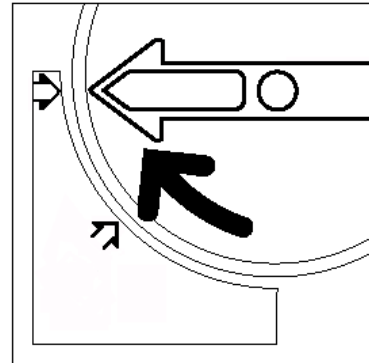

Figure 13: Rotating and securing the Cartridge
- 8** Rotate the cartridge clockwise until the dot on the cartridge is aligned with the dot on the copier/printer and the arrows on the cartridge are horizontal, as illustrated in Figure 13